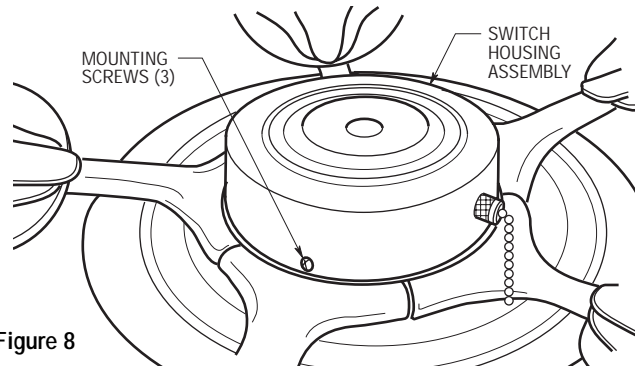

Figure 8
- 11. Remove the three switch housing screws from the switch housing plate. Position the switch housing assembly on the switch housing plate and align the holes in the switch housing assembly with the holes in the plate. Secure the switch housing assembly by installing the three screws (Figure 8).